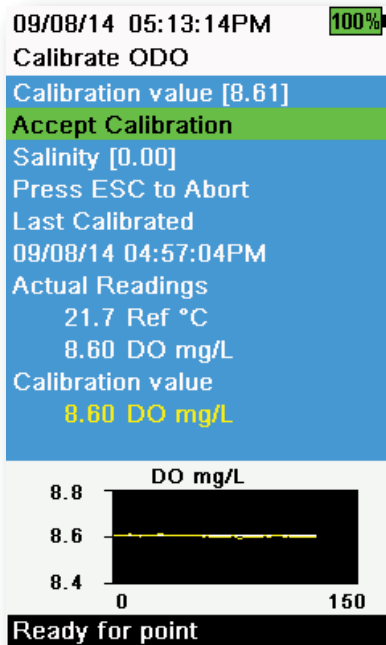

Figure 48 Calibrate ODO mg/L
5. Observe the actual measurement readings for stability (white line on graph shows no significant change for 40 seconds), then select **Accept Calibration** (Figure 48). "Calibration successful!" will be displayed in the message area.